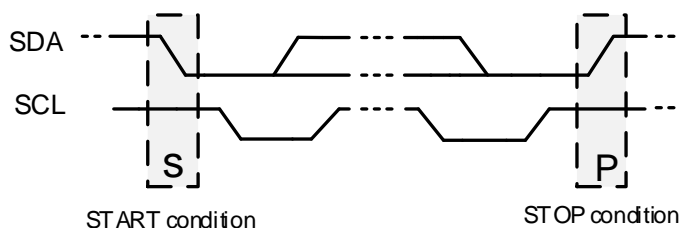

Figure 12. Definition of START and STOP conditions
Both data and clock lines remain HIGH when the bus is not busy. A HIGH-to-LOW transition of the data line while the clock is HIGH is defined as the START condition (S). A LOW-to-HIGH transition of the data line while the clock is HIGH is defined as the STOP condition (P) (see Figure 12).